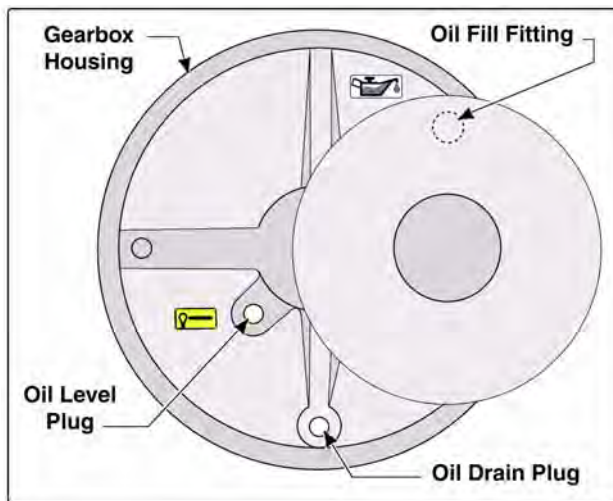

Figure 5-1: Gearbox Oil FILL/LEVEL Plugs
1. Place the pumping unit on a level surface allowing access to the gearbox housing oil plugs. (See Figure 5-1: "Gearbox Oil FILL/LEVEL Plugs," on page 51.)